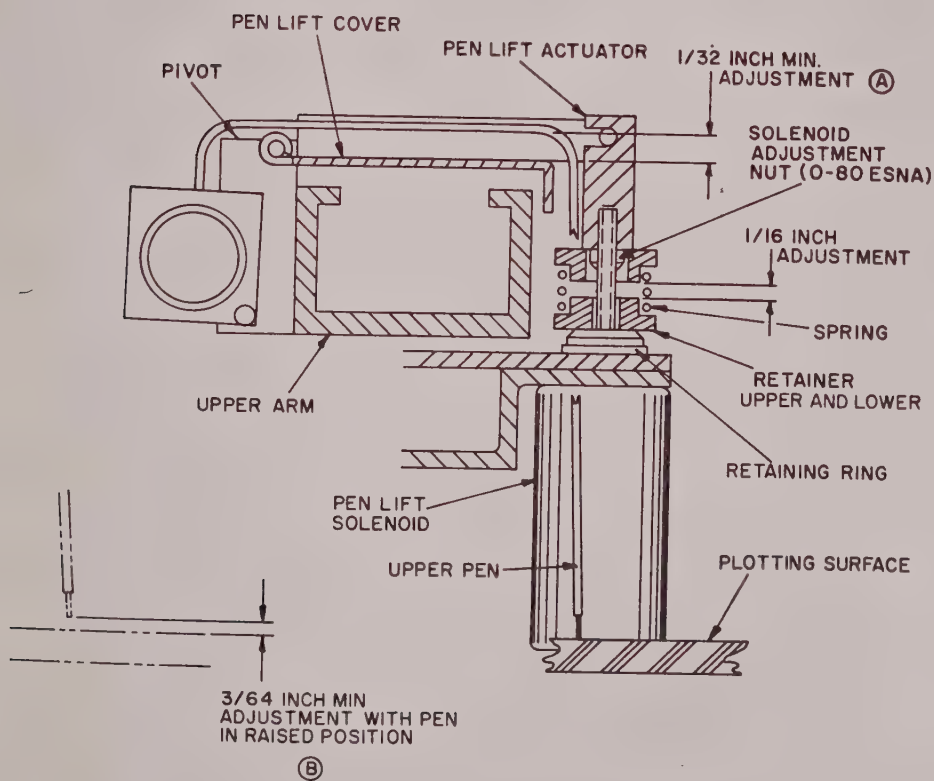

Figure 21. Y' Pen Lift Mechanism Adjustment
To check the adjustment of the Y'-pen-lift system, place the Y'-PEN switch at the PLOT position then check adjustment (A) shown in Figure 21. If this adjustment is correct place the Y'-PEN switch in the UP/OPER position then check adjustment (B). If these adjustments are not as specified, refer to Figures 11 and 21 and proceed as follows:
- (b) Place the Y'-PEN switch at the UP/OPER position then adjust the arm cover retainer (see Figure 11) to achieve the $\frac{3}{64}$ inch adjustment (B) (see Figure 21). If this dimension cannot be achieved, see Step (c). It may be necessary to bend the retainers. Bending should be performed with care to avoid destroying the spring action of the retainers.
- (c) Check the Y'-pen operation for the full length of pen travel. If the pen becomes deformed so that adjustments (A) or (B) Figure 21 cannot be achieved, bend the pen tube to obtain the correct dimension. After reforming the pen, repeat the above step procedures ensuring that the pen is perpendicular to the plotting surface when in the *plot* position.